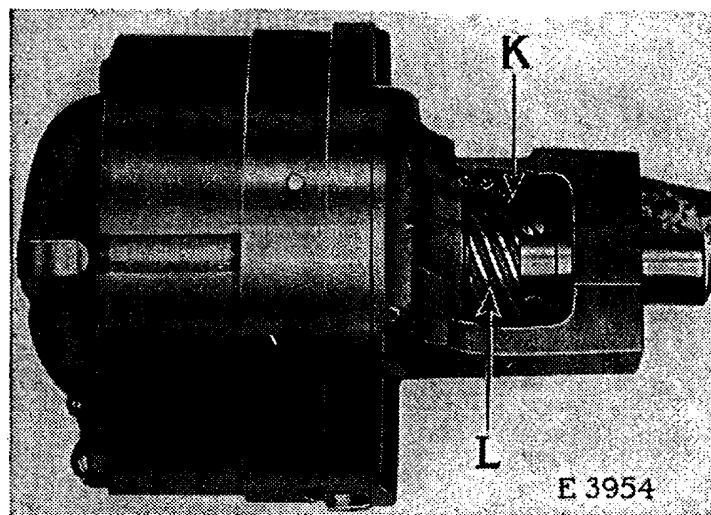

FIG. 31. VIEW OF MOTOR, SHOWING LUBRICANT WELL AND SPIRAL DRIVING PINION
- (f) Fill the well (K, Fig. 31) in which the spiral pinion (L, Fig. 31) revolves, with **SINGER MOTOR LUBRICANT**, (**not oil**).